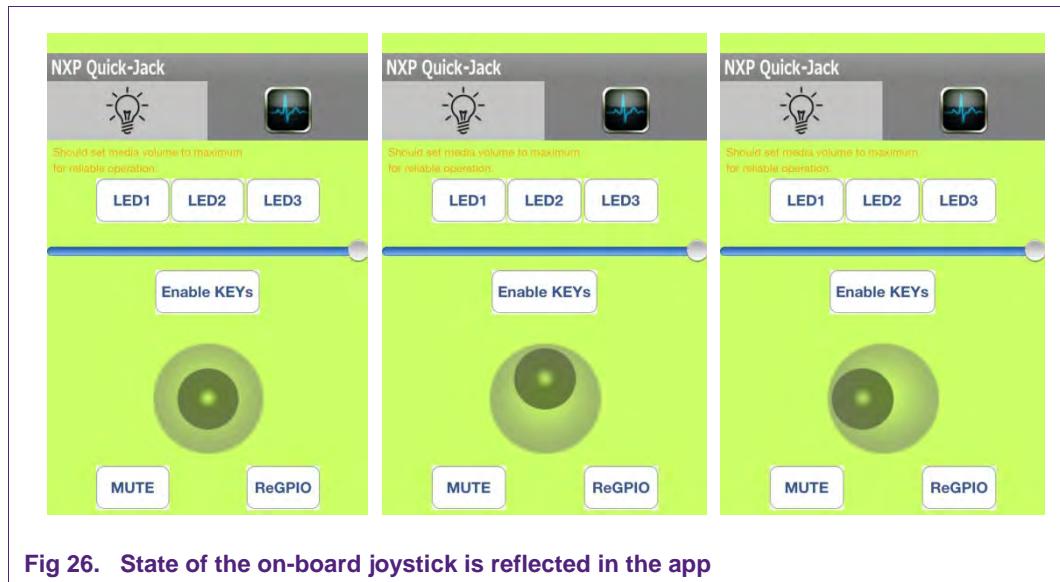

Fig 26. State of the on-board joystick is reflected in the app
- The state of the on-board joystick is reflected on the circle in the app (Fig 26).